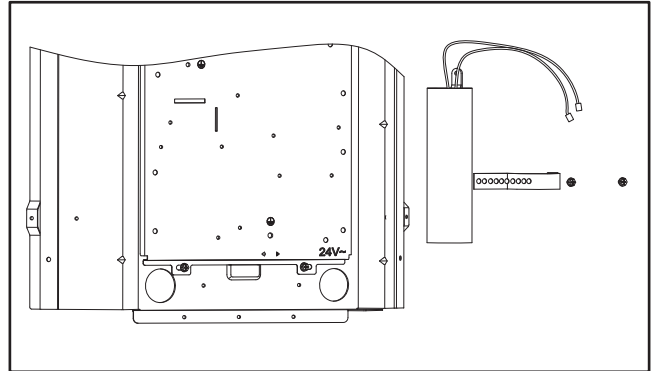

Figure1
STEP 4- With the screws provided, secure Start Control Kit in control compartment as illustrated.(Figure 1)